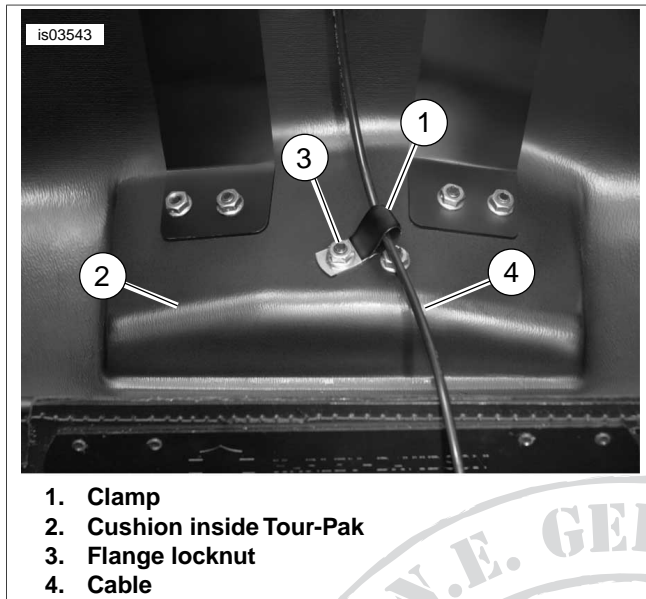

Figure 6. Clamp and Cable Routing
- See Figure 6. Install clamp (1) at bottom of Tour-Pak lid (2) using locknut (3) to ensure proper routing of cable (4). Tighten locknut snugly.